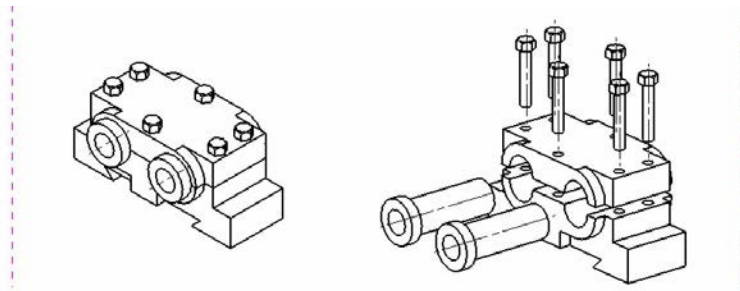

Figure 12-59 The drawing sheet after generating the isometric and exploded drawing views of the assembly
- c. Create the isometric and exploded views of the assembly, refer to Figure 12-59.
1. Select the **Isometric** option from the **Model View to Use** drop-down list. The floating isometric view of the assembly is displayed on the drawing sheet and you are prompted to specify location to place view. Position the drawing view generated in the drawing sheet by pressing the left mouse button, refer to Figure 12-59. Next, press the middle mouse button to exit the tool. The isometric view of the model is displayed in the drawing sheet, refer to Figure 12-59.
dialog box is displayed. Choose the **Trimetric** option from the **Model View to Use** drop-down list; the floating trimetric view of the assembly is displayed on the drawing sheet and you are prompted to specify location to place view. Position the drawing view generated in the drawing sheet by clicking the left mouse button, refer to Figure 12-59. Next, press the middle mouse button to exit the tool.